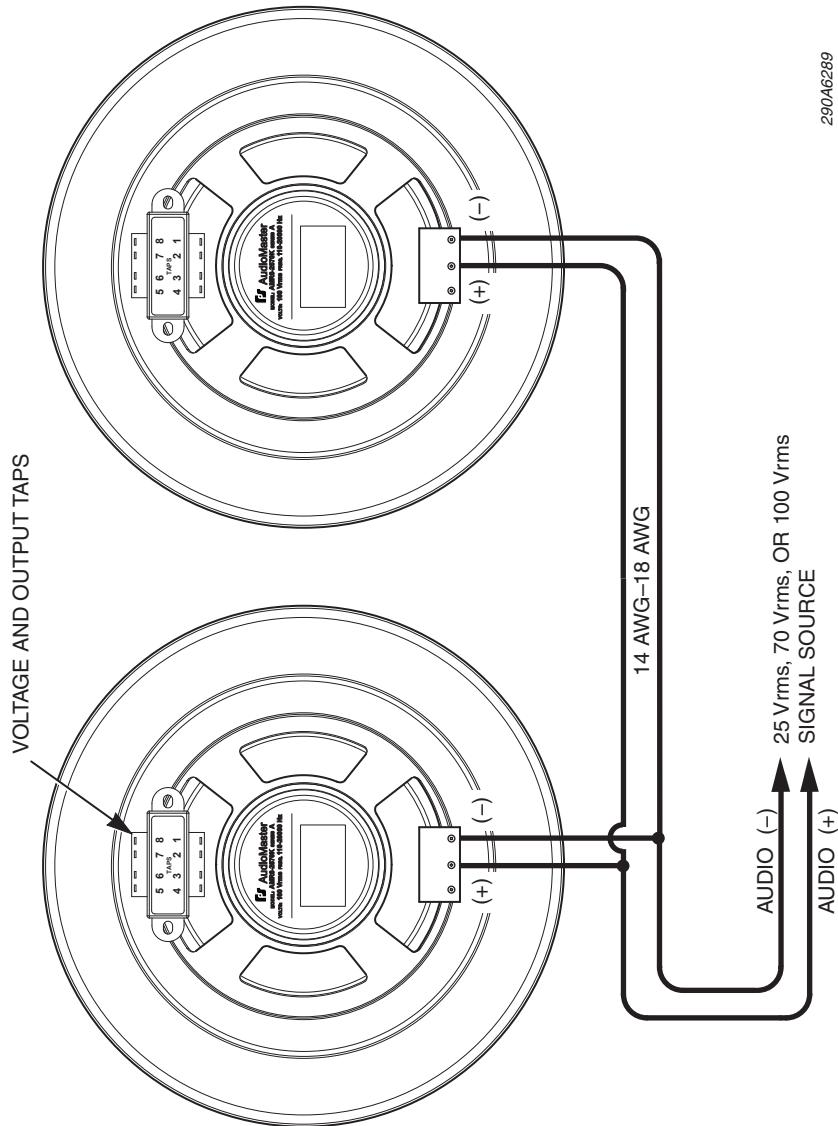

Figure 2. Speakers connected in parallel
4. To connect speakers in parallel, see Figure 2 on page 7.